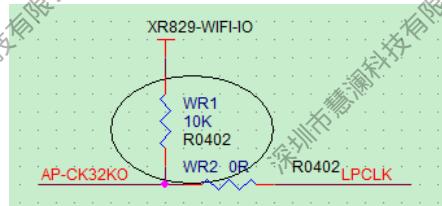

Figure 2-36 AP-CK32KO Pull-up Circuit
- The 32KFOUT of R818 is the output pin of the internal 32.768 kHz. When used in combination with the WiFi module, the external pull-up resistors must be added, and note that the pull-up power supply is VCCIO-WIFI. As shown in Figure 2-36.